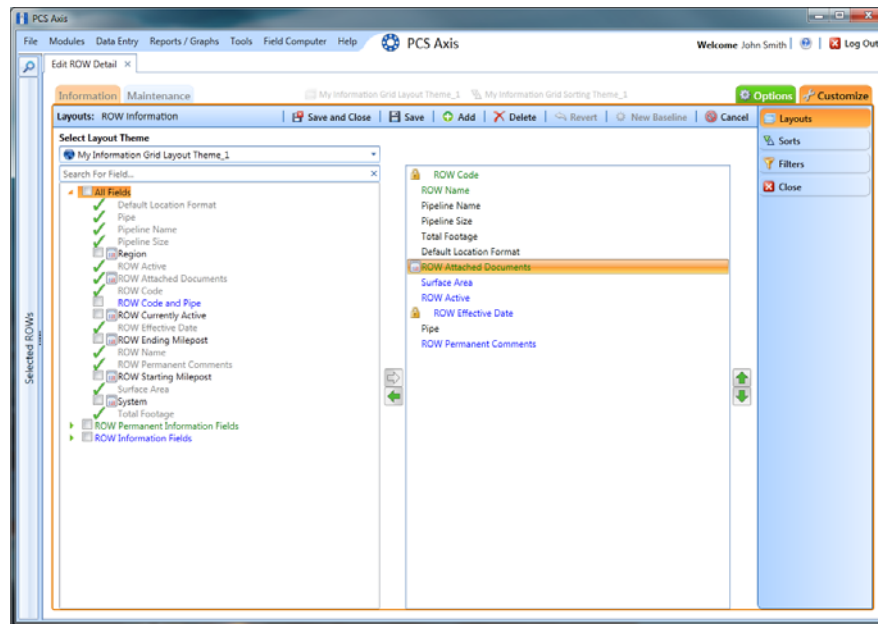

Figure 3-12. Layouts
- 5 Click the **Customize** tab  to view the *Layouts* page (Figure 3-12, page 101).
- 8 Add the field *ROW Attached Documents* in the layout theme. Double-click **ROW Attached Documents** in the left pane of the *Layouts* page to move it to the right pane. Add other fields as required. The layout theme includes all fields listed in the right pane (Figure 3-12).